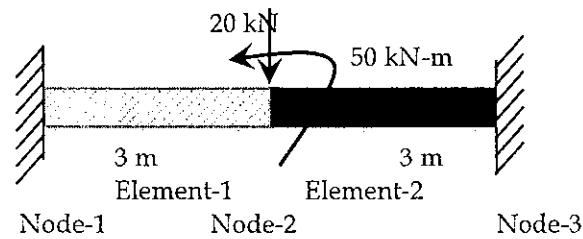

Figure 3: Fixed end beam member
Q.4. Determine the displacement and rotation under the force and moment located at the centre of the beam shown in Figure 3. The beam has been discretised into the two elements, as shown in Figure. The beam is fixed at both ends. A downward force of 20 kN and an applied moment of 50 kN-m act at the centre of the beam. Elastic modulus  $E$  is 200 GPa and Moment of Inertia is  $0.0005 \text{ m}^4$  throughout the beam length. Also plot the nodal forces and moments, which are acting on each element. [8]